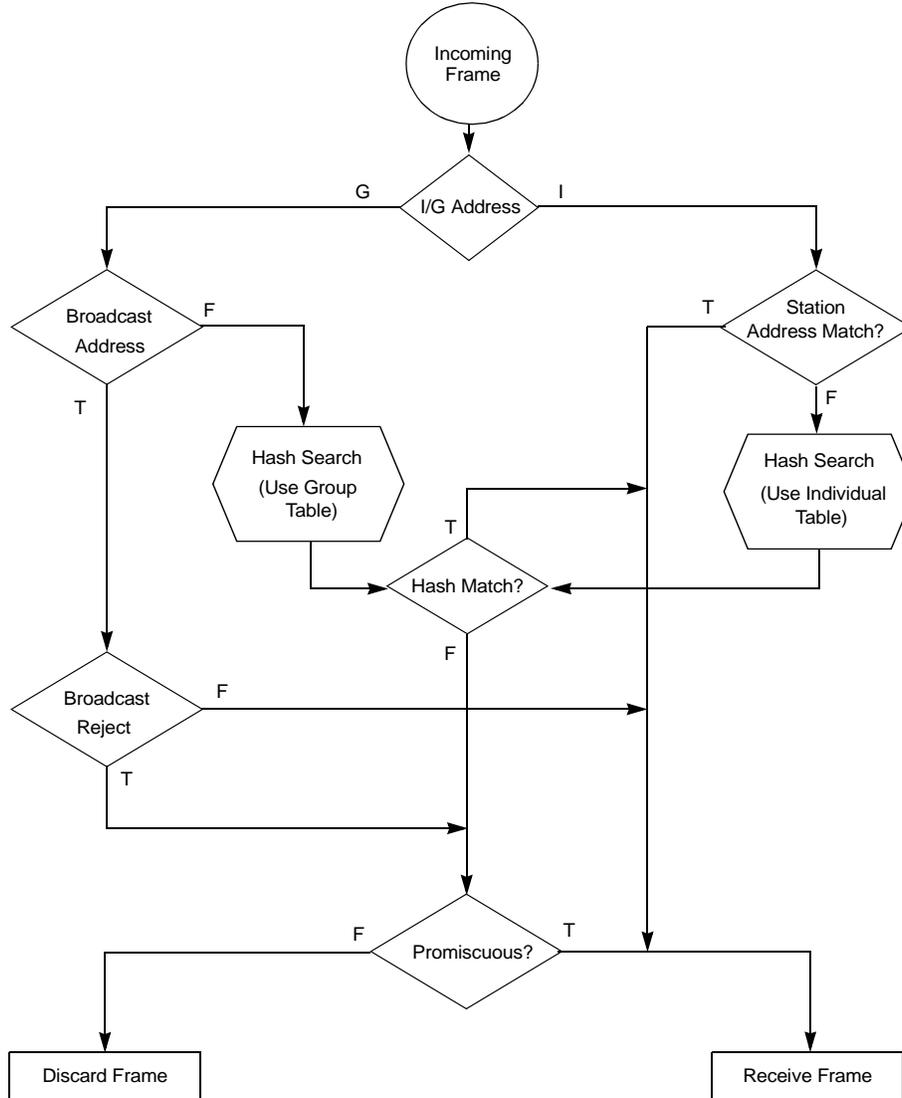

Figure 1. Ethernet Address Recognition Flowchart
Figure 1 shows a flowchart for address recognition on received frames that is used to perform frame filtering using destination address (DA) recognition to determine whether to receive or discard the frame. Frames can be either individual (I) or group (G) addressed frames.